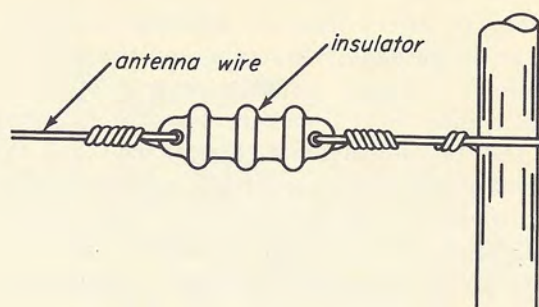

Fig. 5-10
Step 1. Fasten one end of the antenna wire to one of the insulators, as shown in Fig. 5-10.